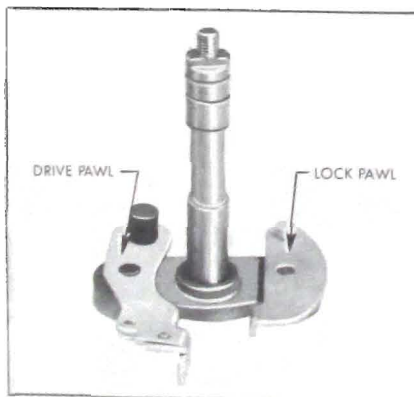

Figure 10-127—Lock and Drive Pawl Assembly
1. Assemble lock and drive pawls to the shaft and drive plate assembly as shown in Figure 10-127.